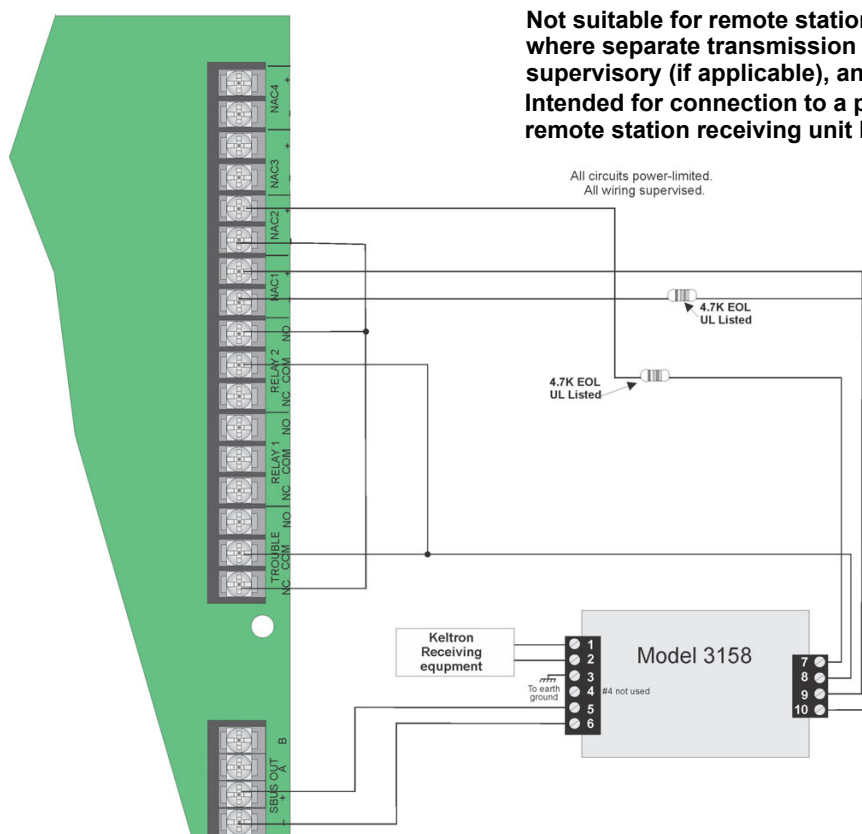

Figure 4.46 Keltron 3158 Connection to Control Panel
1. Wire the 3158 to the control panel as shown in the connection list and Figure 4.46.